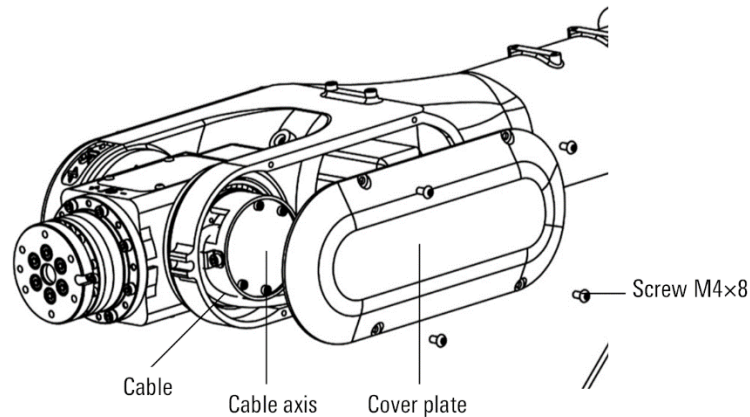

Figure 12-4 Wrist internal cable
- Step1. Remove the cover plate, as shown in Figure 12-4.